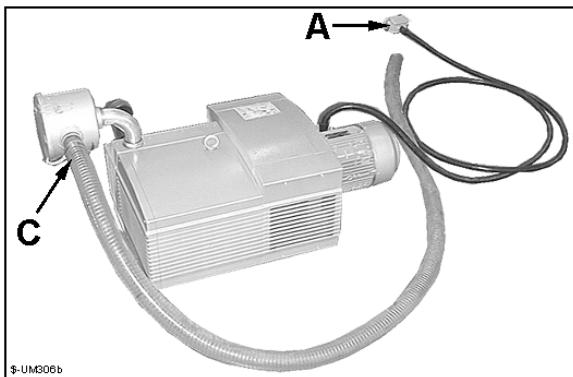

Fig. 2.11e
- Place the vacuum pump at the back of the machine (Fig.2.11e).